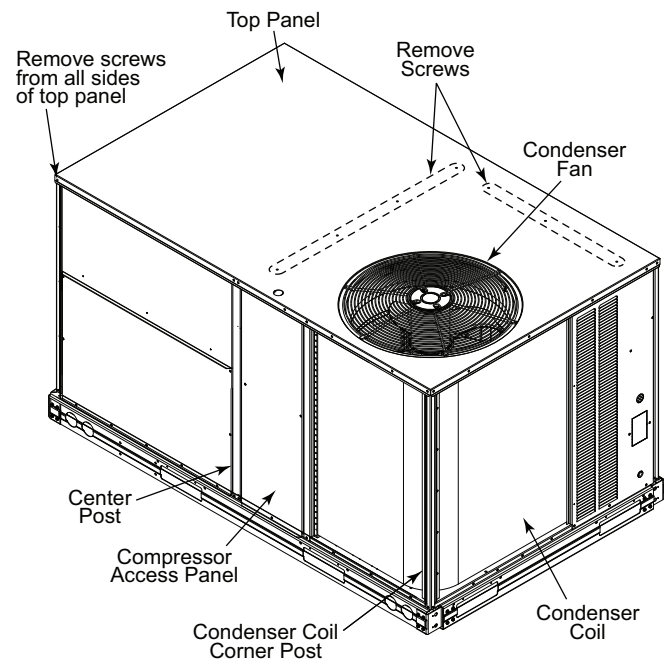
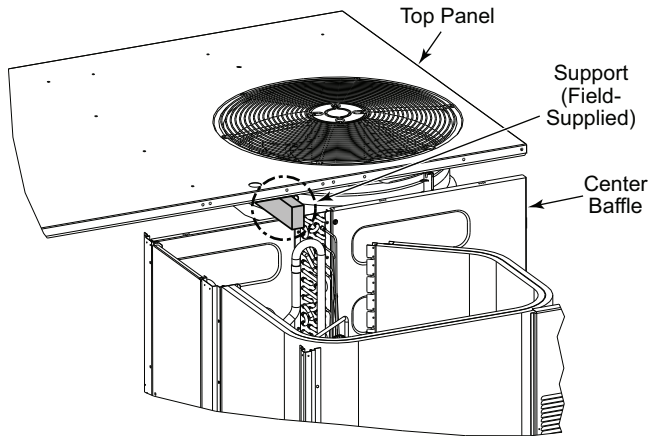

Fig. 17 — Location of Screws and Coil Corner Post
Fig. 18 — Propping Up Top Panel
2. Remove all screws from the top panel except the screws securing the condenser fan to the top panel. See Fig. 17.
3. Remove condenser coil corner post. See Fig. 17. To hold top panel open, place coil corner post between top panel and center post. See Fig. 18.